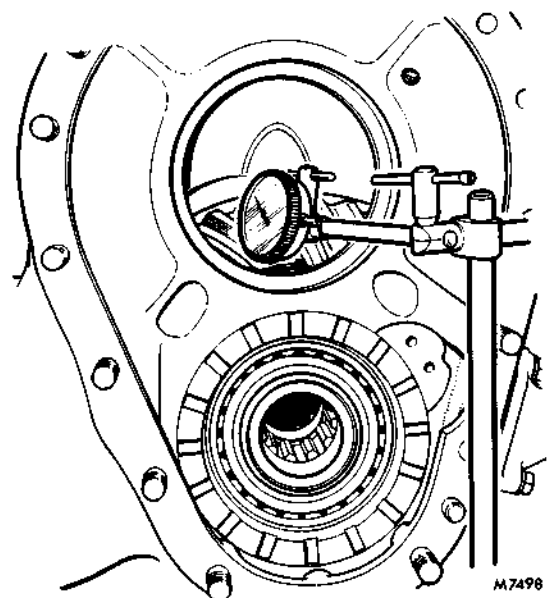

FIG. 6. CHECKING CROWN WHEEL/PINION BACKLASH
10. Using a dial test indicator, Fig. 6, check the backlash. See Data.